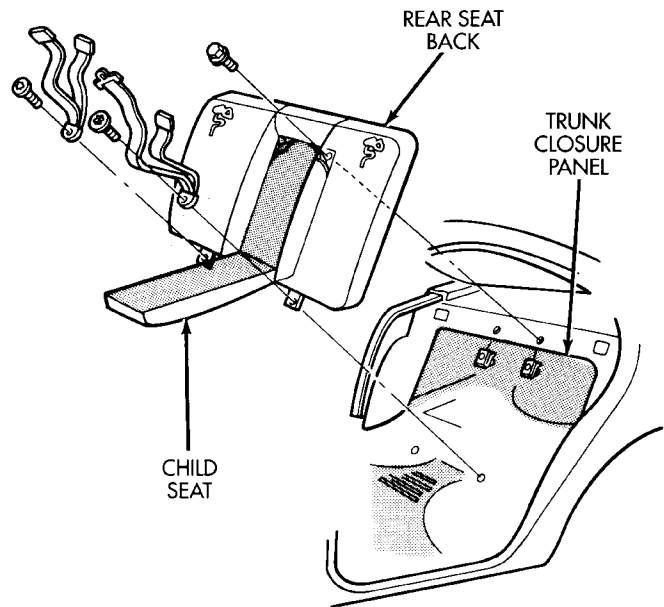

Fig. 4 Child Restraint Seat Back
- (1) Remove rear seat cushion.
- (2) Open child seat and remove lining.
- (3) Remove bolts holding seat back frame to trunk closure panel through access holes in child seat module (Fig. 4).
- (4) Remove bolts holding bottom of rear seat back and seat belts to floor.
- (5) Lift seat back upward to disengage retainer hooks from trunk closure panel.
- (6) Separate rear seat back from vehicle.